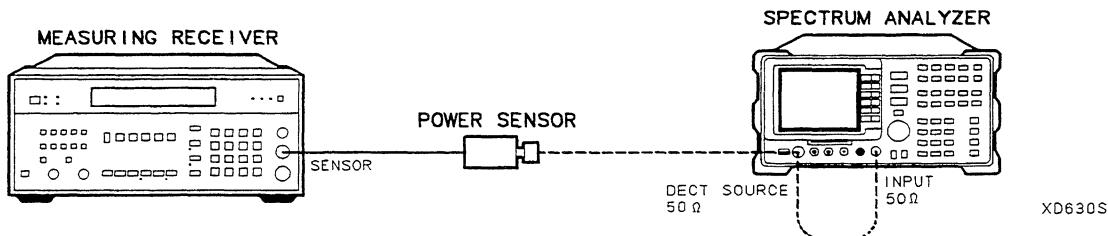

Figure 9-3. DECT Source and Tracking Generator Level Flatness Test Setup
1. Connect the 23 cm BNC cable between the DECT SOURCE $50\ \Omega$ and INPUT $50\ \Omega$ connectors on the spectrum analyzer, using the N(m) to BNC(f) adapters. Refer to Figure 9-3.
1. Connect the 23 cm BNC cable between the DECT SOURCE 50 Ω and INPUT 50 Ω connectors on the spectrum analyzer, using the N(m) to BNC(f) adapters. Refer to Figure 9-3.